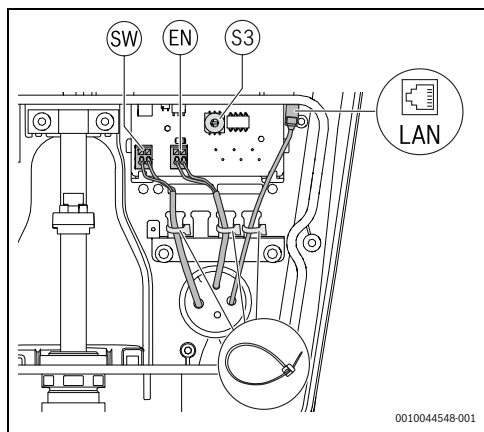

Fig. 160 Racorduri opționale pentru interfețe interne
- Connect a remote release for the upstream RCD or a contractor to the digital output SW (→ Fig. 160, chapter 4.2, page 158, [1]).